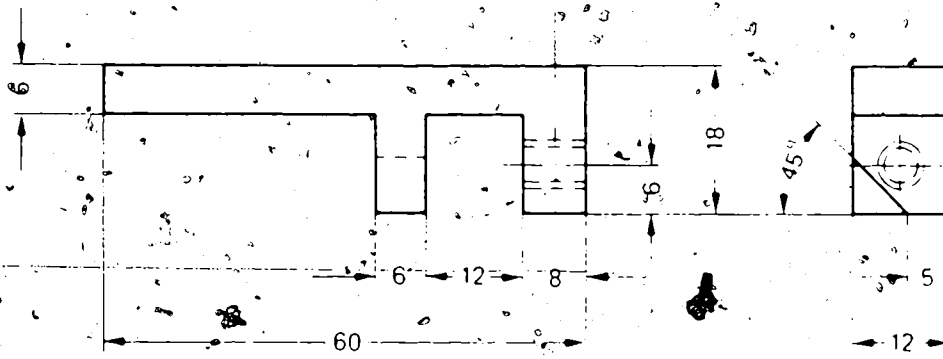

Fig. 4 Clamping piece (user-fabricated)
1. Measure the control-rod travel using the control-rod setting device 1 688 130 095 (EFEP.565), magnet and 30 mm (1/10) dial indicator. Fabricate clamping piece as shown in sketch and fasten to the end of the control rod (Fig. 4). Assemble control-rod setting device and apply magnet to clamping piece.